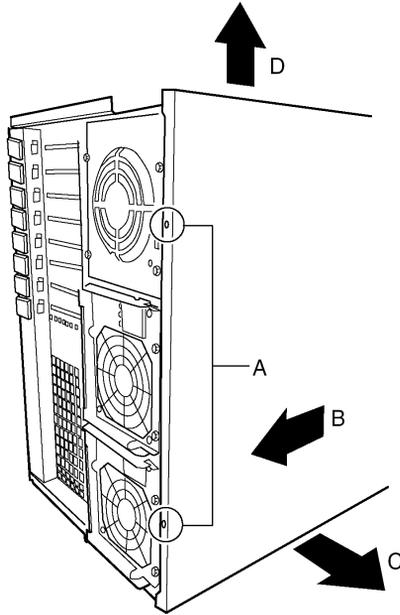

Figure 60 - Removing the bottom panel
- 1 Orient the server so it is resting on its feet as shown in Figure 60.
- 2 Remove the two screws (Figure 60, A) located on the rear edge of the bottom panel.
- 3 Slide the panel toward the rear of the chassis (Figure 60, B).
- 4 Using the orientation shown in Figure 60 as a reference, grasp the bottom edge of the cover (Figure 60, C) and tilt it out. Then lift the cover straight up (Figure 60, D) to free it from the tabs on the chassis.